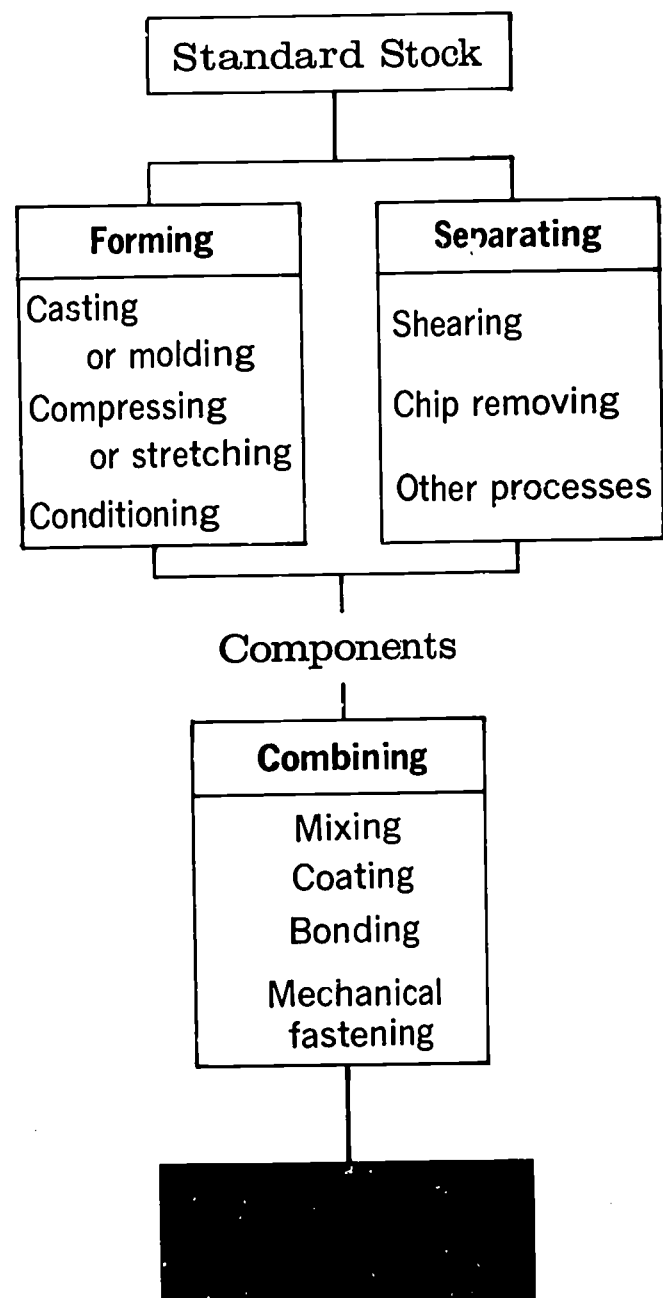

Fig. 63-1. Subassemblies and final assemblies, in the shaded area above, are discussed in this reading.
In these readings, you have learned how parts are joined or combined into assemblies. They are joined by (1) *mixing*, (2) *coating*, (3) *bonding*, and (4) *mechanical fastening*. In this reading, you will learn how all of these are used to form subassemblies or to combine subassemblies into more *complex* (complicated) finished products, Fig. 63-1.